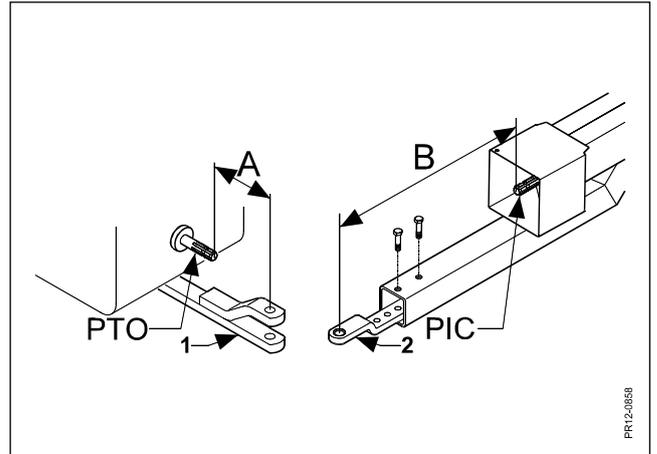

Fig. 2-8
- Fig. 2-8** Adjust the drawbar of the tractor (1), so that the distance "A" will be as small as possible. Adjust the drawbar of the machine (2), so that the distance "B" will be as large as possible. The drawbar of the machine (2) must be turned, so that the PTO shaft is as close to a horizontal position as possible. (NB: Fittings for drawbar **must** always be mounted with 2 bolts).